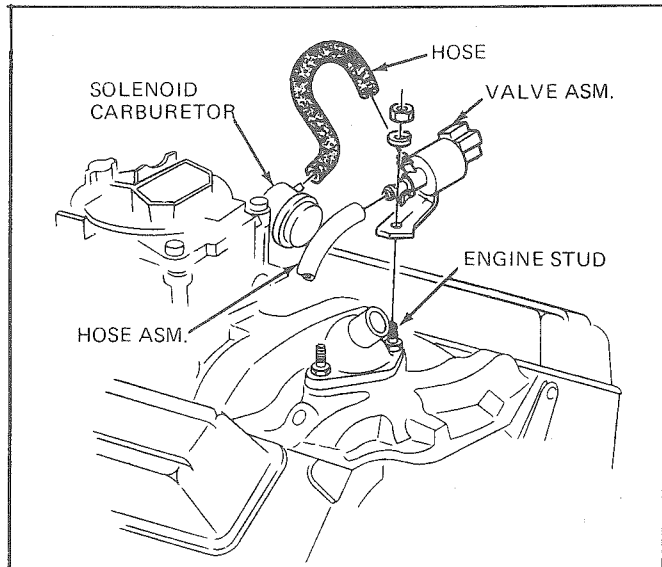

Figure 63 – Throttle Valve
3. Remove the front fiberglass wheel liners (see figure 63).